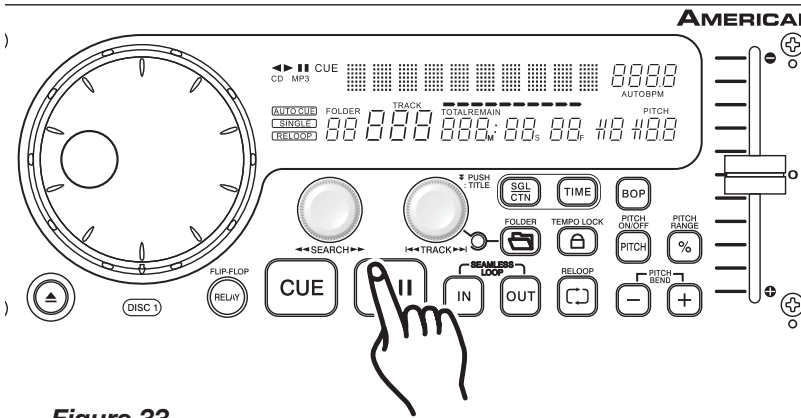

Figure 33
- 1) Press the *PLAY/PAUSE BUTTON* (18) so music is playing (Figure 33).